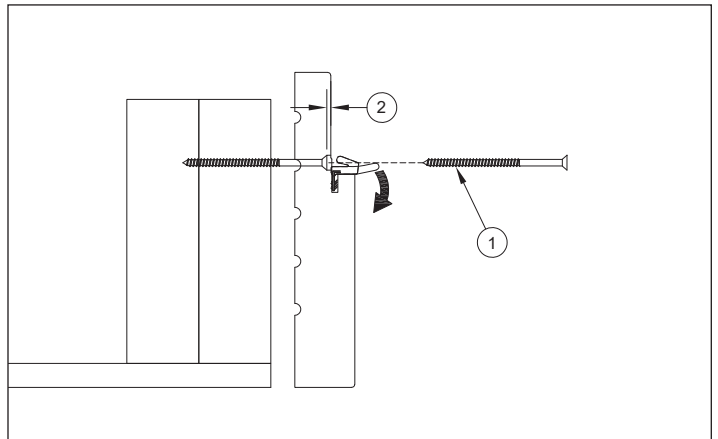

Figure 25
2. Once shimming is complete drive the frame screws until countersunk approximately 1/8" (3). See figure 25.